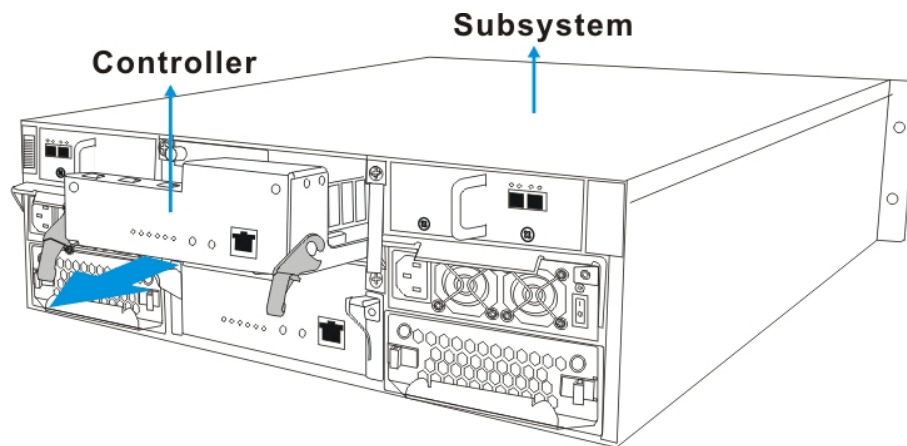

Fig. 2.3 Removing the Controller Module
5. Gently pull the controller module out of the subsystem. (See Figure 2.3) Place the controller module on a clean surface.